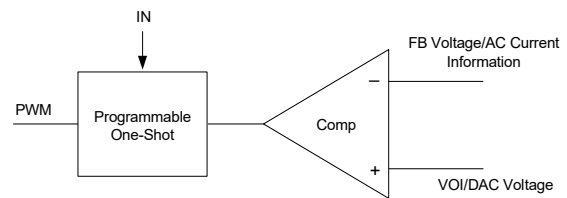

Figure 9. Simplified Control Schematic
The control algorithm of AOZ2231CQI-23 is constant-on-time PWM control with input feed-forward. The simplified control schematic is shown in Figure 9. The high-side switch on-time is determined solely by a one-shot whose pulse width is inversely proportional to input voltage (IN). The one-shot is triggered when the internal VOI/DAC voltage is higher than the combined information of output voltage and the AC current information of inductor, which is processed and obtained through the sensed low-side MOSFET current once it turns-on. The added AC current information can help the stability of constant-on-time control even with pure ceramic output capacitors, which have very low ESR. The AC current information has no DC offset, which does not cause offset with output load change, which is fundamentally different from other V² constant on-time control schemes.